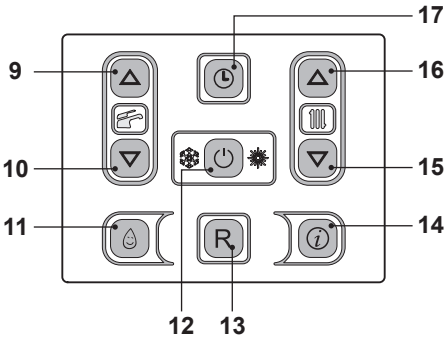
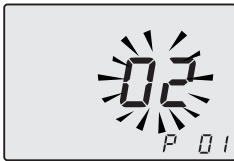

Fig. 7.35
Fig. 7.36
- Enter the "programming mode" by pressing keys 12 - 15 - 16 (Fig. 7.35) for 10 seconds at the same time until the letters **P01** on the LCD display, indicating that "parameter 01" (Fig. 7.36) has been activated.
- By pressing key 12 (Fig. 7.35) confirmation of the inserted value is obtained.
- Press keys 15 or 16 (Fig. 7.35) to exit without changing the value.